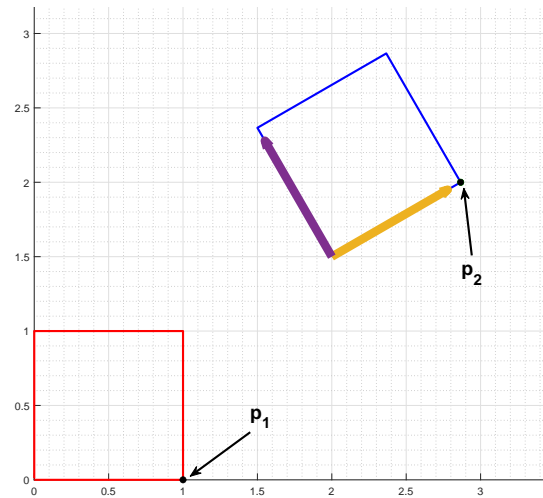

Figure 5: There are two frames: red and blue. There are two physical points: p_1 and p_2
- (c) Say we attach a frame to the blue square as shown in Figure 5, where x and y are the yellow and purple axes respectively. What is the pose of this frame?
- (d) Say ${}^R p_i$ and ${}^B p_i$ are the coordinates of the points p_i , marked in Figure 5, in the red and blue frames respectively. Find numeric values of all four possible coordinates of the two points.